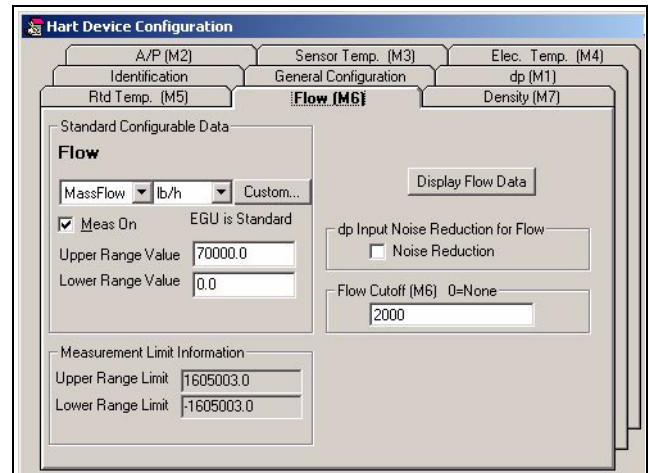

Figure 2. HART Device Configuration Screen
- Easy-to-use configurator provides selections for user applications. For typical configurator screens, see Figures 2 to 4.